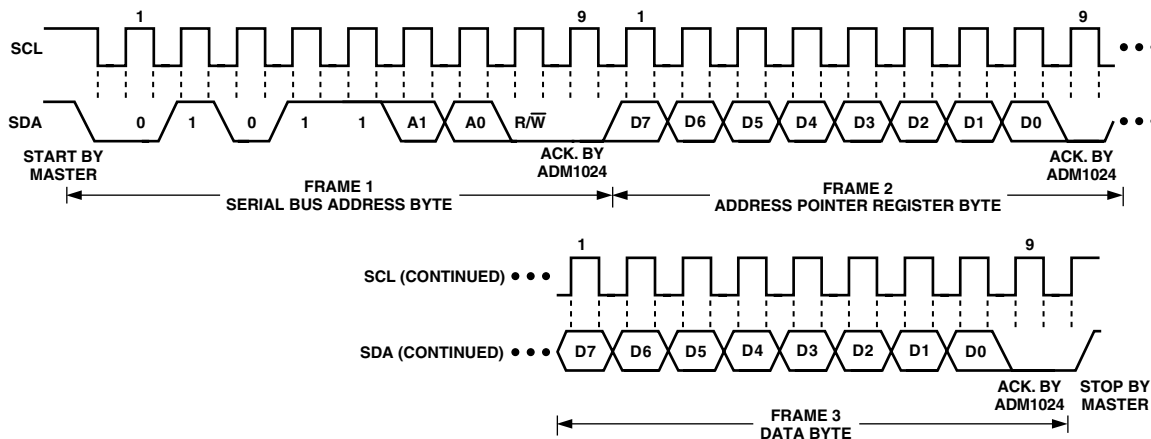

Figure 9a. Writing a Register Address to the Address Pointer Register, then Writing Data to the Selected Register
To write data to one of the device data registers or read data from it, the Address Pointer Register must be set so that the correct data register is addressed, then data can be written into that register or read from it. The first byte of a write operation always contains an address that is stored in the Address Pointer Register. If data is to be written to the device, the write operation contains a second data byte that is written to the register selected by the address pointer register. This is illustrated in Figure 9a. The device address is sent over the bus followed by  $R/\overline{W}$  set to 0. This is followed by two data bytes. The first data byte is the address of the internal data register to be written to, which is stored in the Address Pointer Register. The second data byte is the data to be written to the internal data register.
- In Figures 9a to 9c, the serial bus address is shown as the default value 01011(A1)(A0), where A1 and A0 are set by the three-state ADD pin.